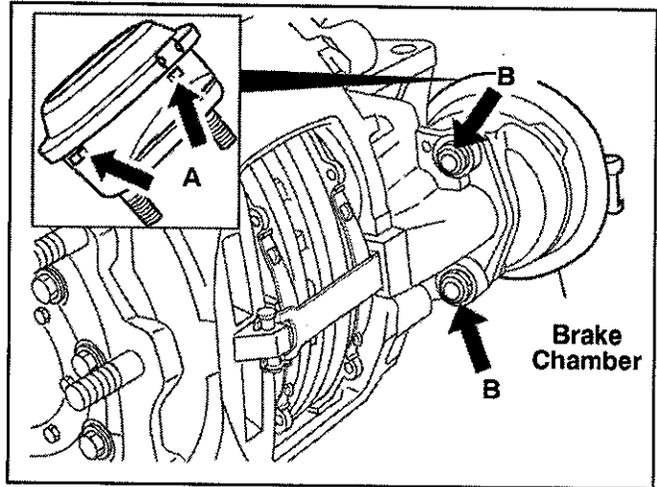

FIGURE 3 - BRAKE CHAMBER INSTALLATION
1. Remove and discard brake chamber mounting nuts. See Figure 3, arrows B.
**NOTE:** New brake chambers have drain plugs installed (see Figure 3 arrows A). After installation, remove whichever plug is at the lowest position to ensure all water will drain from the brake chamber. Be sure that all other drain holes remain plugged. The drain hole must be aligned downward (or within  $\pm 30^\circ$ ) when installed on the vehicle.